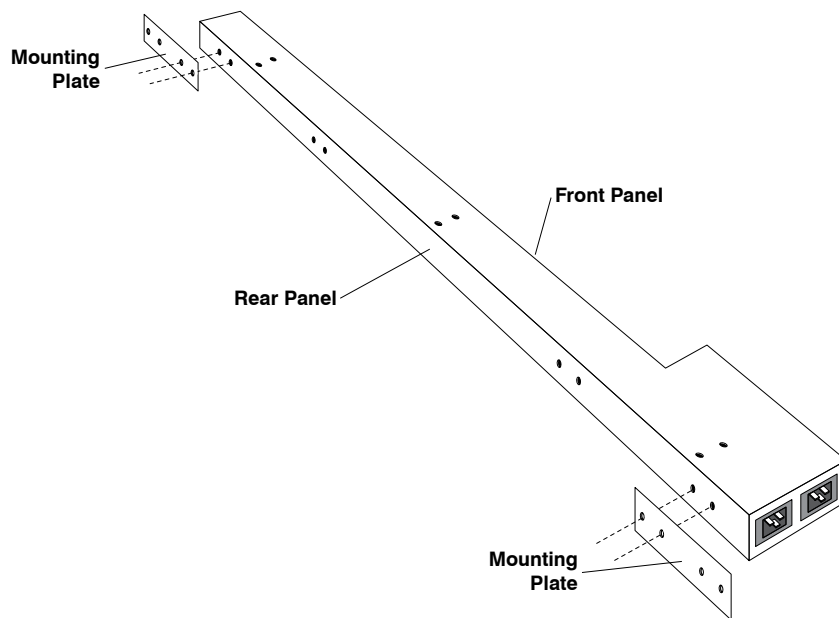

Figure 4: Installing Mounting Plates (NBB Shown)
1. **Attaching the Brackets to the Vertical Power Device:** Determine which direction the vertical mount power device will face after mounting, and then secure the Mounting plates to the device as shown in Figure 4, using the screws provided with the mounting brackets.
2. **Attaching the Mounting Plates to the Equipment Rack:** Determine which direction the vertical mount power device will face in the rack, then line the screw holes in the Mounting Plates up with two holes in the equipment rack mounting strip. Make certain that the unit is level, and then use two screws to secure each Mounting Plate to the rack as shown in Figure 4.